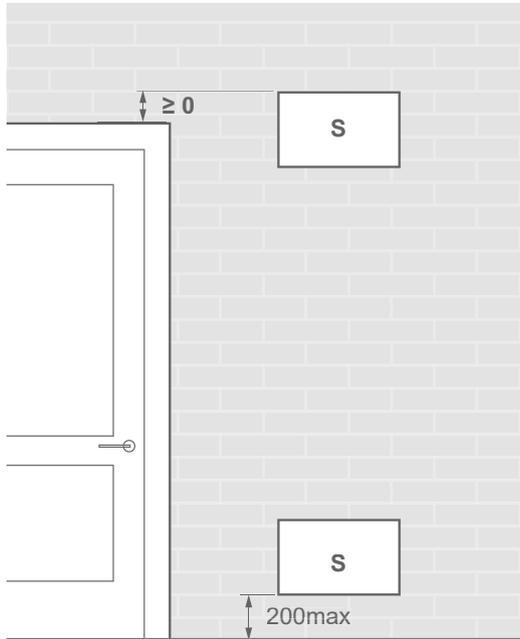

fig. 22 - Position of openings for ventilation
- The room is naturally ventilated with another room, where the total volume of the two rooms is greater than "fluid fill load" (in kg) / 0.3 kg/m³. The two rooms are ventilated with openings of at least: view *fig. 23 and fig. 22*.